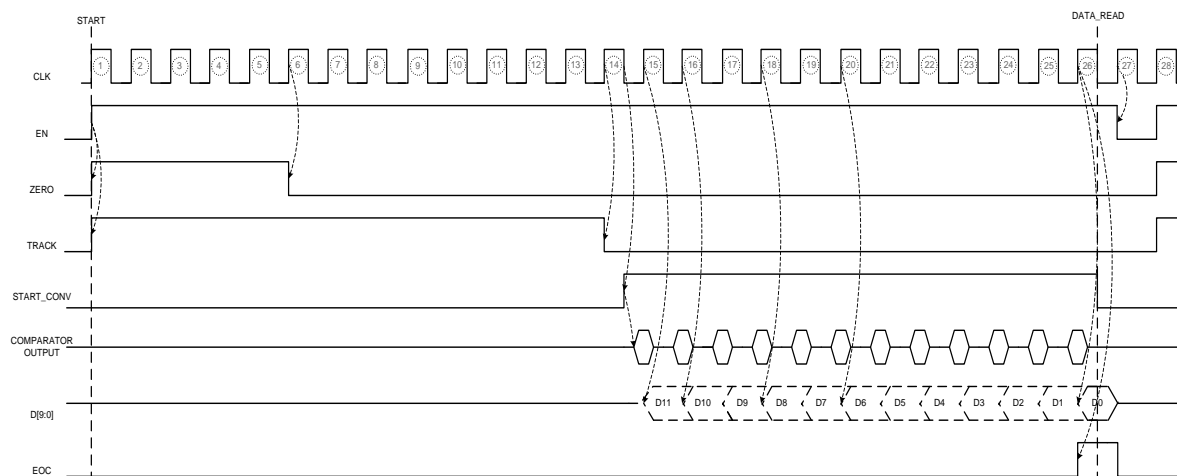

Figure 8: Track and Hold Sequence Timing Diagram
The implemented track-and-hold circuit ensures a stable voltage on the input of the SC ADC during the conversion. Figure 8 shows the polarity and the timing of the external and internal signals controlling the track and hold sequence of the converter. The clock ( $f_{CLK} = 0.5$  MHz) and the enable signal (EN) are provided by the main PM control logic, while all the other signals are internally generated. The timing diagram illustrates a tracking period of 13 clock cycles, that is 26  $\mu$ s (inclusive of 10  $\mu$ s auto-zero time) and a conversion period of 24  $\mu$ s, hence a total ADC conversion cycle of 50  $\mu$ s.